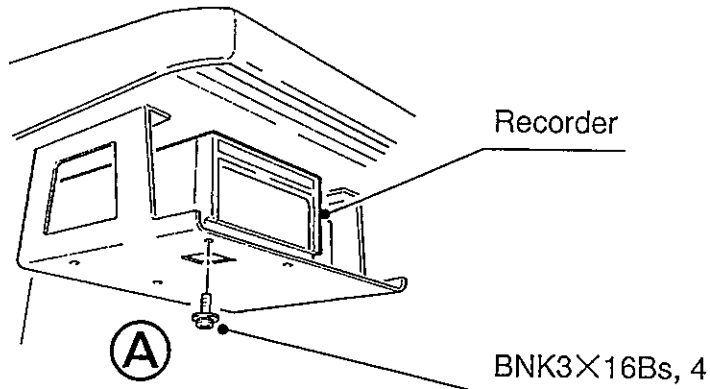

Fig. 3
- 4-1. Front cover . . . . ※ Operations (1) thru (3) are not required for equipment without recorder.
- (1) Unfasten 4 screws, with which recorder is secured. (A in fig. 3)